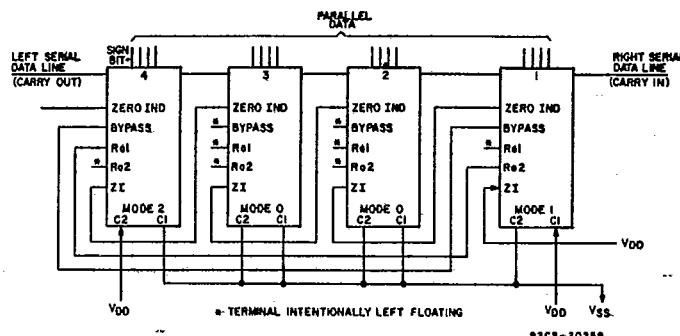

Fig. 11 — Connection for 16-bit arithmetic logic unit.
Data-flow interruptions are shown by shaded areas. With these three ALU's and the four available modes, 61 more system combinations can be formed. If 4 ALU's are used, 44 combinations (256) are possible. Fig. 11 shows a diagram of 4 CD4057A's interconnected to form a 16-bit parallel processor.
The condition of "all zeros" is indicated by a "1" on the Zero Indicator terminal of the "Most Significant" CD4057A. As shown in Fig. 11, terminal Z1 of the CD4057A containing the least significant set of bits is connected to V_{DD}. Zero indication is independent of modes.